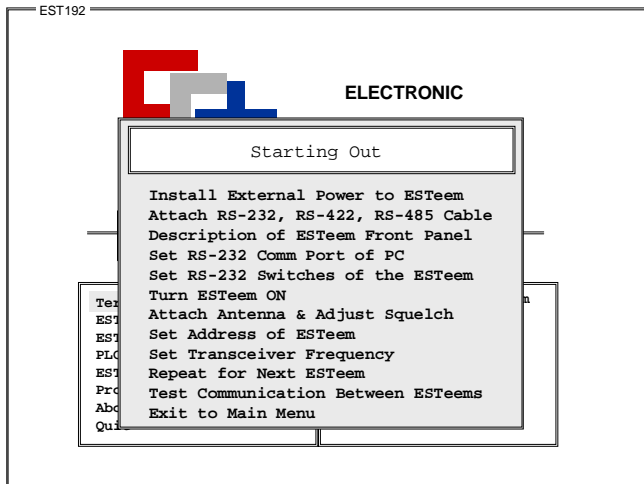

Figure 3: Starting Out Menu
1. Select ESTeem Setup from the main menu. A window like the one in Figure 3 will be displayed. This window is a check sheet for setting all operating parameters of the ESTeem. As you complete each section, a check mark will be displayed next to the item you finished. This will allow you to verify that all steps were taken in programming the ESTeems to communicate. Proceed to step 2.